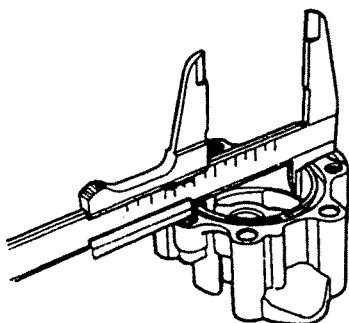

Fig. 26-2. Checking Body Inner Diameter
- Measure the pump body inner diameter at the point which is normally occupied by the outer rotor (Fig. 26-2). The standard diameter is 1.9744"-1.9756". The service limit is 1.9764".